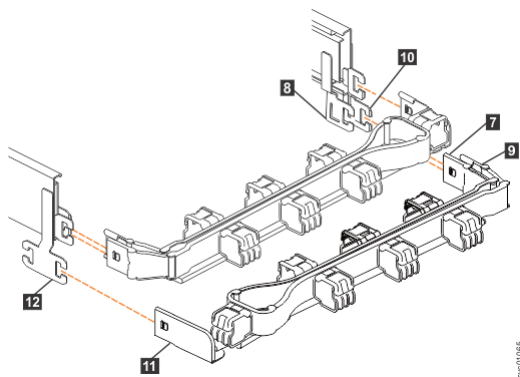

Figure 50. Comparing the location of the components of the CMA assemblies
**Note:** The procedure for attaching the lower CMA assembly is the same as the procedure to attach the upper CMA assembly. However, the connector locations are reversed. For comparison, Figure 50 on page 53 shows the upper and lower CMA assemblies as they are aligned to the support rails. The support rail connector of the upper CMA attaches to the right rail. The support rail connector of the lower CMA **11** attaches to the left rail.
5. Install the inner connector of the lower CMA assembly (**7**) to the inner member of the right support rail (**8**), as shown in Figure 50 on page 53.
6. Install the outer connector of the lower CMA assembly (**9**) to the outer member of the right support rail (**10**), as shown in Figure 50 on page 53.
7. Attach the support rail connector on the lower CMA assembly (**11**) to the connector on the left support rail (**12**), as shown in Figure 50 on page 53.